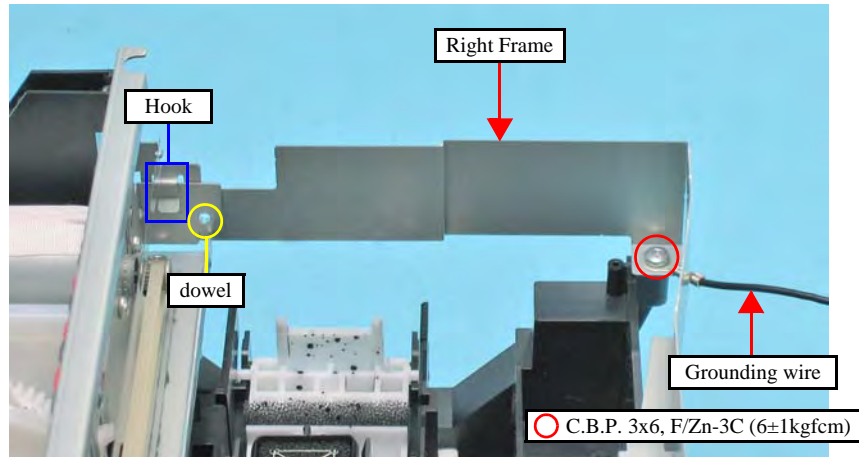

Figure 4-49. Removing the Front Frame/Right Frame (2)
- As shown in Figure 4-49 secure the Front Frame and Right Frame together with the screw. (Place the Right Frame on top of the Front Frame.)